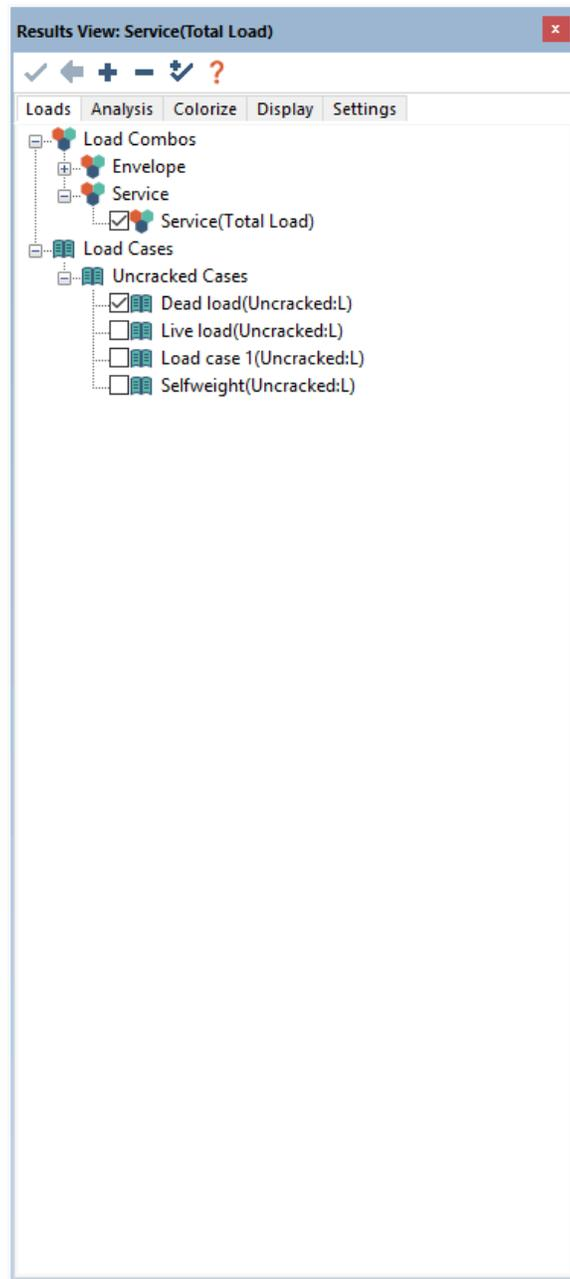

Figure 3-7
- Once the solution is saved the program will open the *Results Browser* along the right edge of the graphical user interface as shown in **FIGURE 3-7**.
- In the *Results Browser*, from **FIGURE 3-7**, notice at the top of the window the program displays the name of the load combination the user is currently viewing the results from. We only analyzed the model for just the *Service (Total Load)* load combination so only that load combination along with Envelope of the load combinations will be available in the Load Combo list. Since we have not defined any loading or modeled any post-tensioning the effect on this load combination will be 0 for these load cases, leaving us with only the self-weight of the model within this load combination.